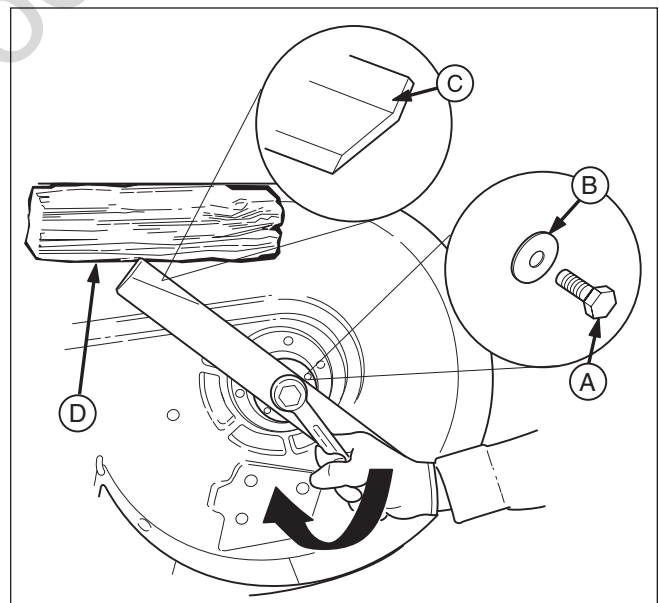

Figure 17. Tightening the Mower Blade for Installation
1. Reinstall each mower blade with the air lifts pointing up towards the mower deck as shown in Figure 17. Wedge a wooden block between the mower blade and the mower deck housing, and secure the mower blade with the mower blade mounting bolt and flat washer (A & B, Figure 31) and torque to 70 ft. lbs (94 Nm).